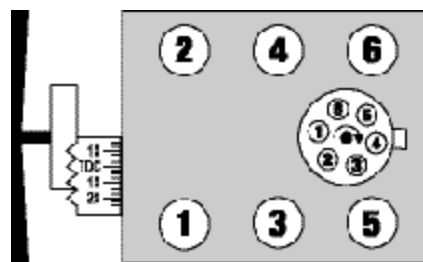

Figure 2- Chevrolet/GMC 4.3L V6
2. The above procedure assures correct lifter pre-load. Repeat this procedure for each of the other seven cylinders by rotating the engine 120° and following the firing order (1-6-5-4-3-2). See Figure 2.